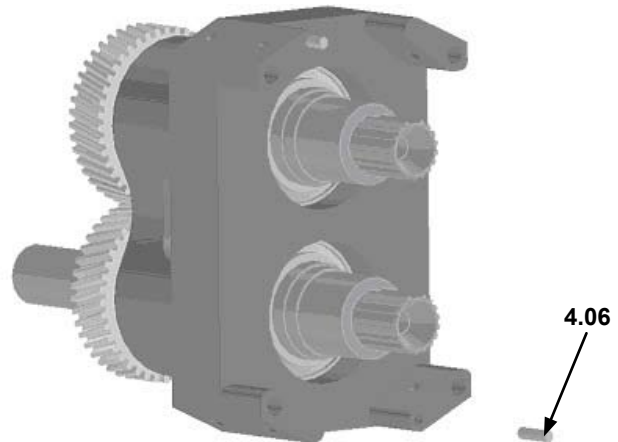

FIGURE 26
- Install the dowels (4.06) into the bearing housing (See Figure 26)